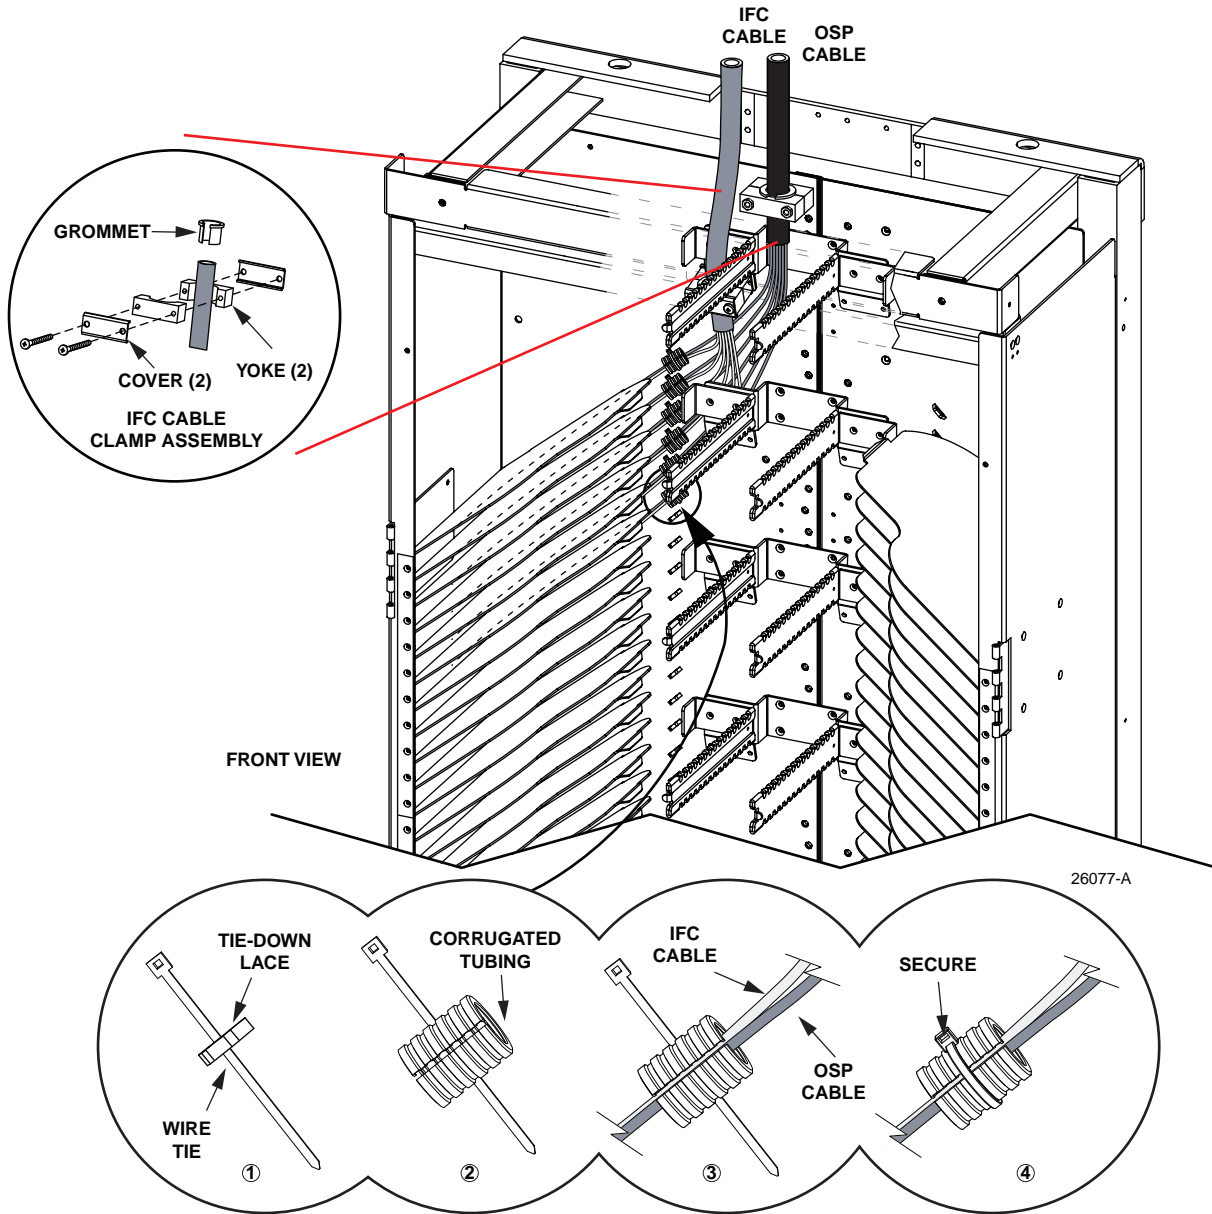

Figure 24. IFC Cable Routing (Overhead Cable Environment, 72-Fiber IFC Configuration)
2. Route and secure the first IFC and OSP cable to the bay as shown in Figure 24.